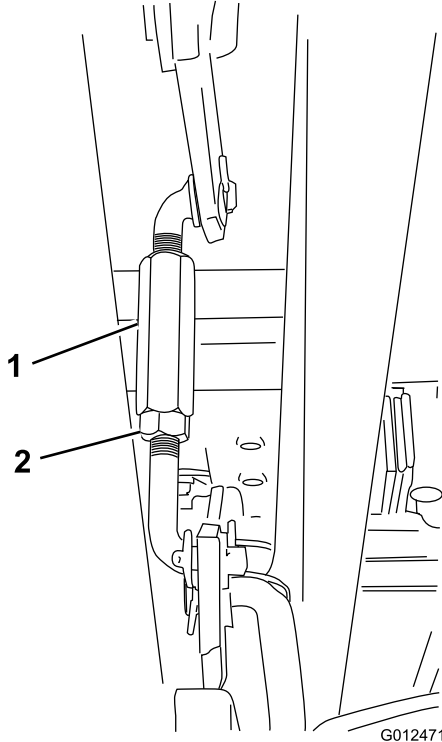

Figure 47
8. Loosen the jam nut on at the end of the turnbuckle (on the right side of the machine; refer to Figure 47), and adjust the turnbuckle until the distance between the front tip of the left blade and the flat surface is 55 mm.